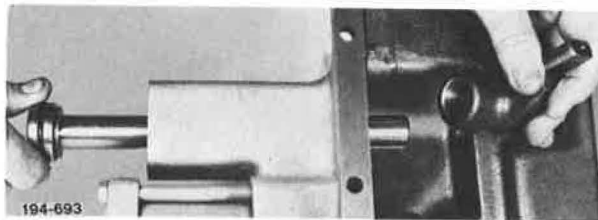

Figure 5-444. Installing Shift Rail and Shifter
19. Slide reverse shift rail into shift cover and, at the same time, install reverse shifter. See Figure 5-444.